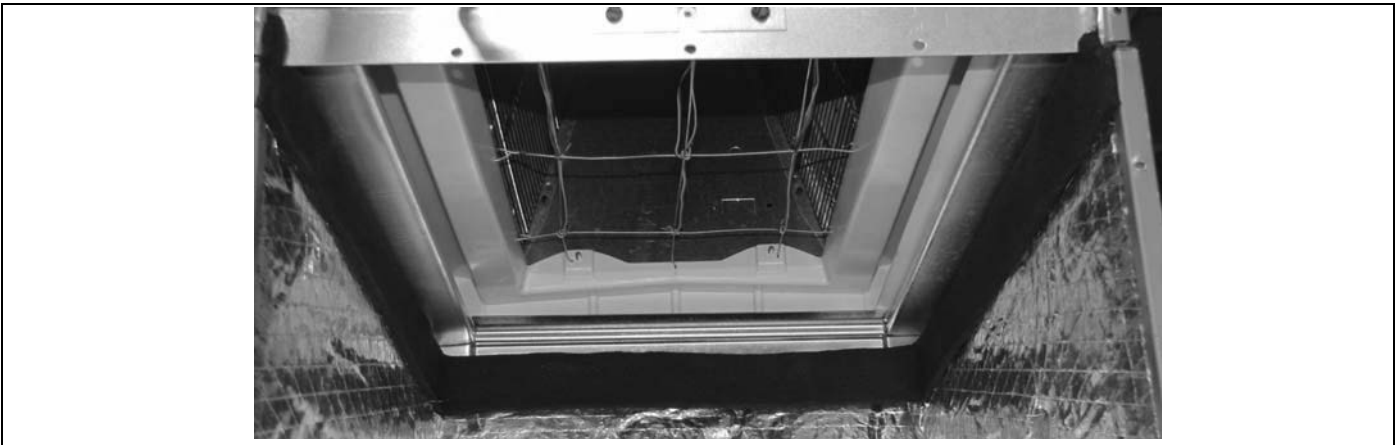

FIGURE 3: Gasket Location
2. Refer to the unit rating plate for the air handler model number, and then see the dimensions page of this instruction for supply air plenum dimensions in Figure 3. The plenum must be installed according to the instructions.
Air supply and return may be handled in one of several ways best suited to the installation. See Figure 3 for dimensions for duct inlet and outlet connections.
The supply air duct should be properly sized by use of a transition to match unit opening. All ducts should be suspended using flexible hangers and never fastened directly to the structure. This unit is not designed for non-ducted (freeblow) applications. Size outlet plenum or transition to discharge opening sizes shown in Figure 3.
Field supplied low voltage wiring can exit the unit on the top right hand corner or the right hand side panel. Refer to Figure 3.